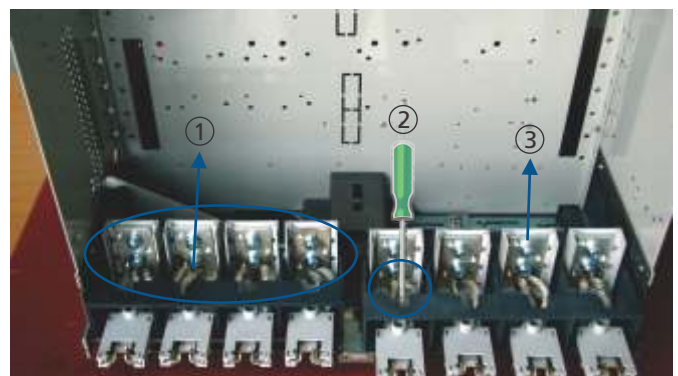

Figure 62 - Power Contacts in Full width module
- Gently push the power contact out from the back. Figure 62.